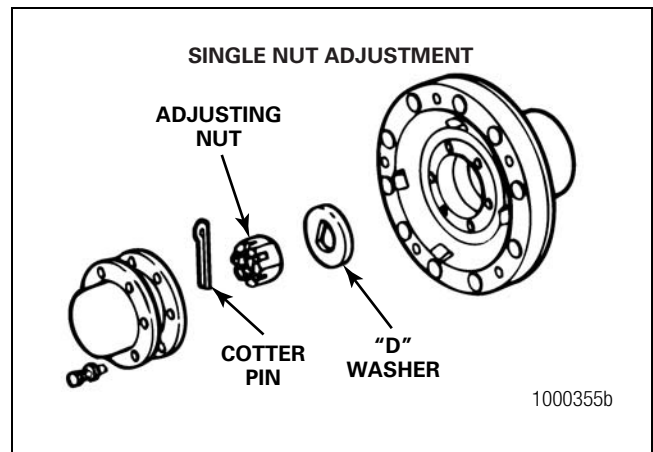

Figure 4.2
- A. For single nut fasteners, remove the cotter pin from the adjusting nut. Figure 4.2.
- B. Remove the adjusting nut and the "D" washer from the spindle. Figure 4.2.